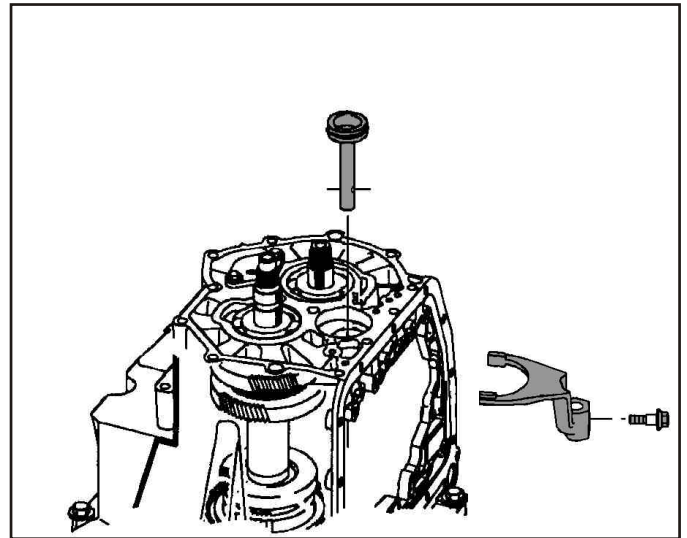

Figure 201
22. Slide the forward/reverse fork onto the second/reverse sleeve in the gear box (See Figure 201).
25. Install the fork to servo piston bolt and torque to 10 N•m (89 in. lbs) as shown in Figure 201. **IMPORTANT:** The bolt to be used must have a long shoulder to properly secure the fork to the piston.